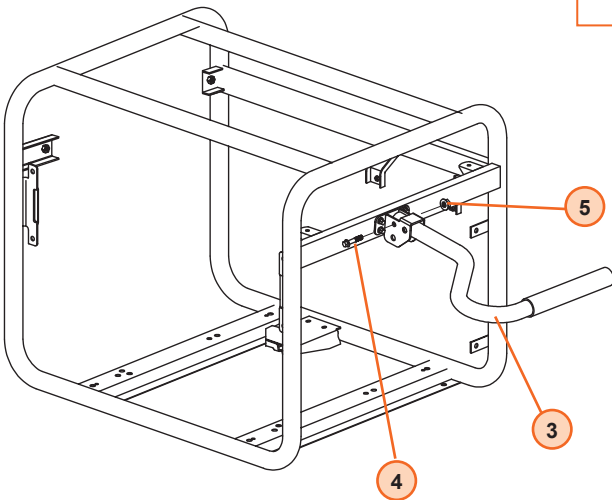

Figure 4
Step 2. Installing the handle (see Figure 4):
1. Attach the handle (3) to the handle bracket with a hex bolt (4) and secure with a hex nut (5).